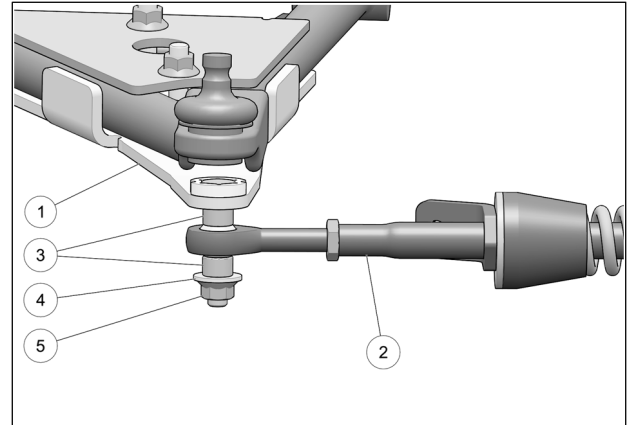

Fig. 14
7. Attach the stabilizing rod (**2**) to the anchor bracket (**1**), using the two spacer bushings (**3**), flat washer (**4**) and nut (**5**). Torque to 70 N•m [52 lb•ft]. Refer to Fig. 14